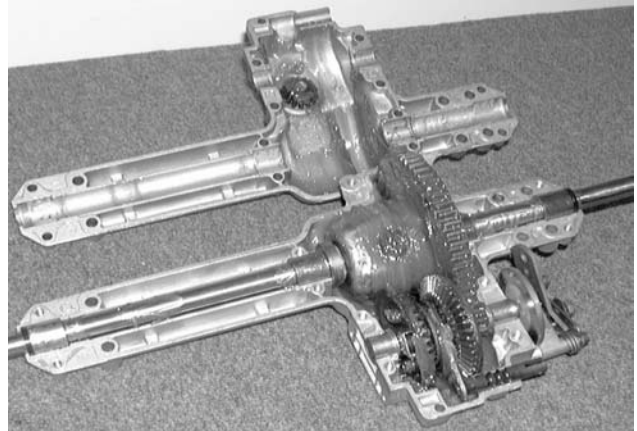

Figure 8-58.
8. Remove the upper transmission housing. See Figure 8-58.